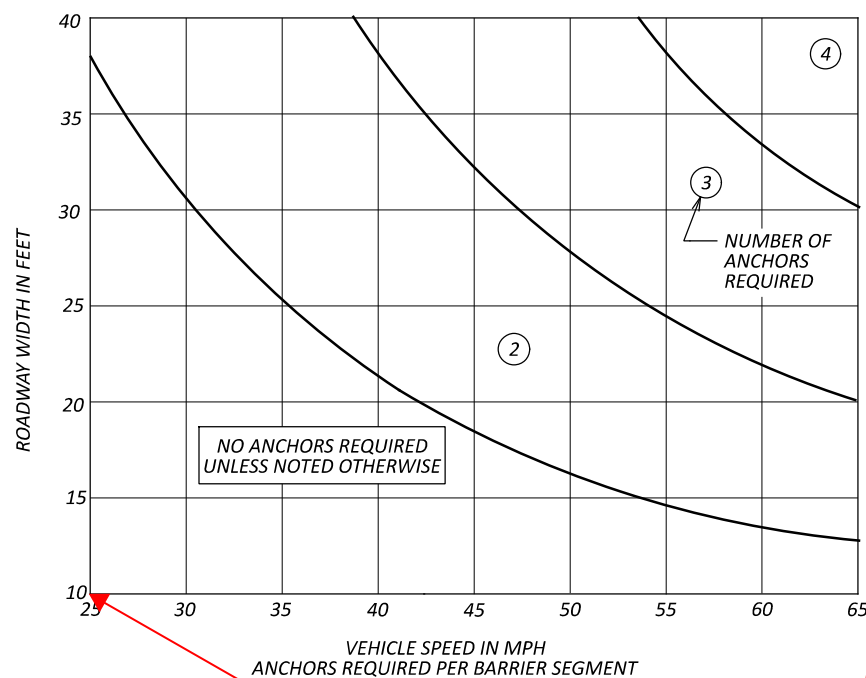

FIGURE 3
STEP 4: (A) FOR THE RM-4.2 PORTABLE CONCRETE BARRIER SYSTEM, REFER TO THE ANCHORING REQUIREMENTS SHOWN ON SHEET 4 OF 5 OF THE STANDARD CONSTRUCTION DRAWING.
(B) FOR THE PCB-91 PORTABLE CONCRETE BARRIER SYSTEM, DETERMINE THE NUMBER OF ANCHORS REQUIRED PER BARRIER SEGMENT USING FIGURE 3. IF THE EDGE DISTANCE IS LESS THAN 1-FT, PROVIDE TWO TIMES THE NUMBER OF ANCHORS SPECIFIED IN FIGURE 3 WITH A MINIMUM OF 2 ANCHORS PER SEGMENT. IF A BRIDGE SUPPORTING THE BARRIER SYSTEM IS OVER A TRAFFIC FACILITY, THEN THE MINIMUM NUMBER OF ANCHORS SHALL BE 2 PER SEGMENT.